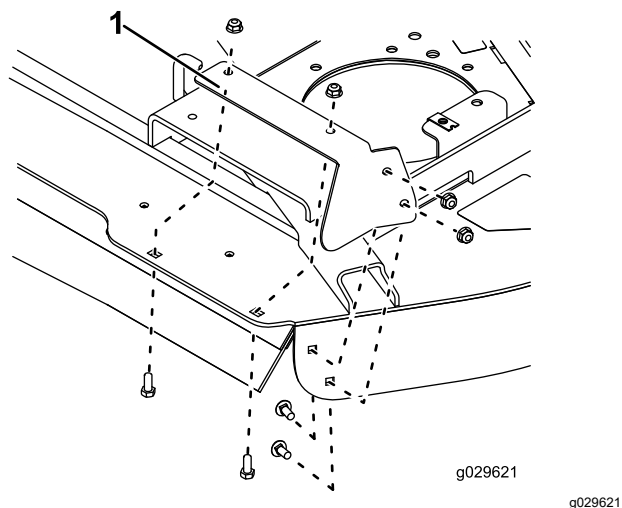

Figure 12
7. Mount the right foot shield to the top and side of the mower deck with 4 carriage bolts (5/16 x 3/4 inch) carriage bolts and 4 nuts (5/16 inch) as shown in Figure 12.